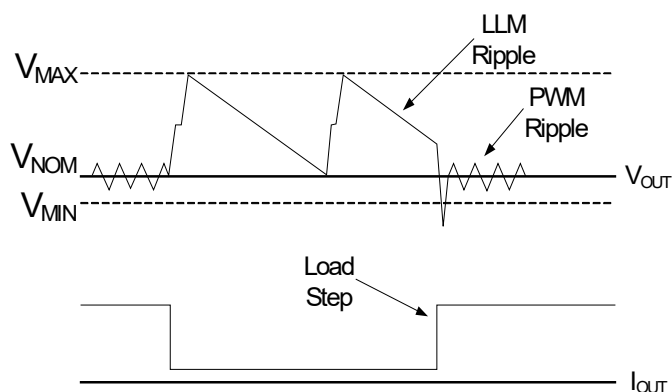

Figure 6: V_{OUT} Behavior in LLM Operation
The EP53A7xQI uses a proprietary light load mode to provide high efficiency in the low load operating condition. When the LLM pin is high, the device is in automatic LLM/PWM mode. When the LLM pin is low, the device is in PWM mode. In automatic LLM/PWM mode, when a light load condition is detected, the device will (1) step V_{OUT} up by approximately 1.5% above the nominal operating output voltage setting, V_{NOM} , and then (2) shut down unnecessary circuitry, and (3) monitor V_{OUT} . When V_{OUT} falls below V_{NOM} , the device will repeat (1), (2), and (3). The voltage step up, or pre-positioning, improves transient droop when a load transient causes a transition from LLM mode to PWM mode. If a load transient occurs, causing V_{OUT} to fall below the threshold V_{MIN} , the device will exit LLM operation and begin normal PWM operation. Figure 6 demonstrates V_{OUT} behavior during transition into and out of LLM operation.
Many multi-mode DC-DC converters suffer from a condition that occurs when the load current increases only slowly so that there is no load transient driving V_{OUT} below the V_{MIN} threshold (shown in Figure 6). In this condition, the device would never exit LLM operation. This could adversely affect efficiency and cause unwanted ripple. To prevent this from occurring, the EP53A7xQI periodically exits LLM mode into PWM mode and measures the load current. If the load current is above the LLM threshold current, the device will remain in PWM mode. If the load current is below the LLM threshold, the device will re-enter LLM operation. There will be a small droop in V_{OUT} at the point where the device exits and re-enters LLM, as shown in Figure 7. The load current at which the device will enter LLM mode is a function of input and output voltage. Figure 8 shows the typical value at which the device will enter LLM operation. The actual load current at which the device will enter LLM operation can vary by $\pm 30\%$. Table 1 shows the minimum load current below which the device is guaranteed to be in LLM operating mode.